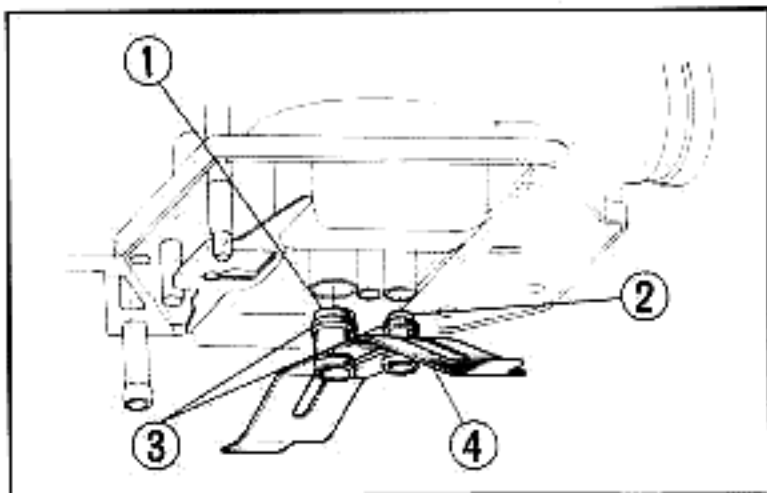

Fig. 8-3 ① Needle Jet ③ O-Ring
- \* Exercise particular care that the clip plate should be installed in correct orientation (Fig. 8-3).